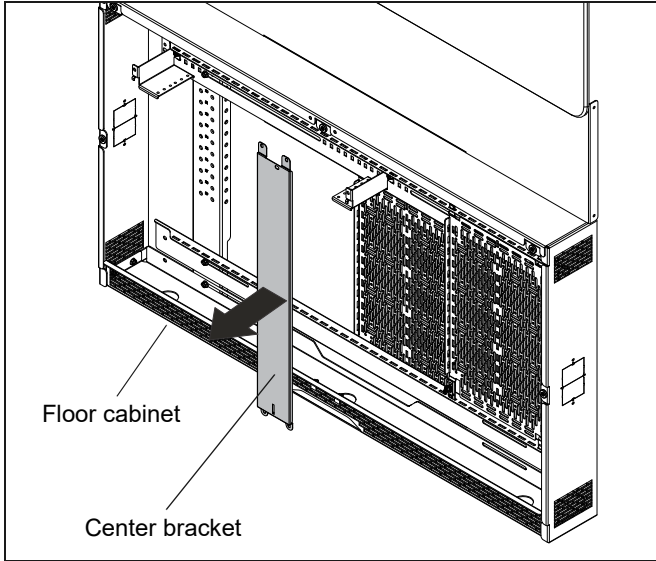

Figure 1
NOTE: Make sure the center bracket has been uninstalled from the floor cabinet prior to installing the locking cover (A). (See Figure 1)